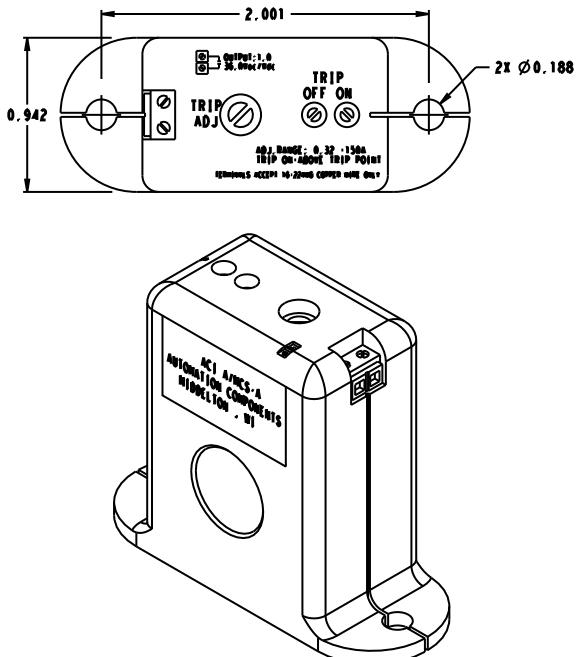

Fig. 18 — Fan Status Switch
2. If the Blue LED is on, slowly adjust the potentiometer (labeled as “TRP ADJ” in Fig. 18) clockwise until the RED LED just turns on and stop immediately. The trip point is now set at the normal operating load current.